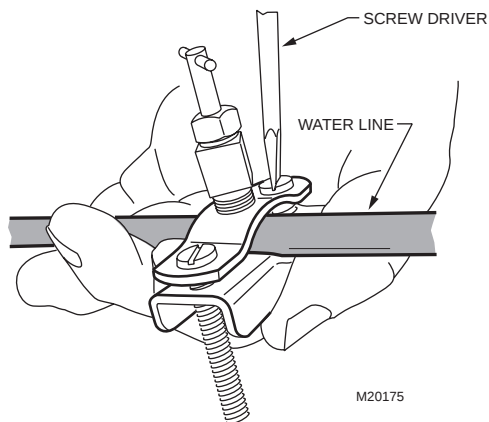

Fig. 32. Installing Saddle Valve.
3. Assemble saddle valve over copper tube using #10 x 1-3/4 in. machine screws. See Fig. 32.
5. Tighten bottom clamp evenly. Brackets should be parallel. See Fig. 32.